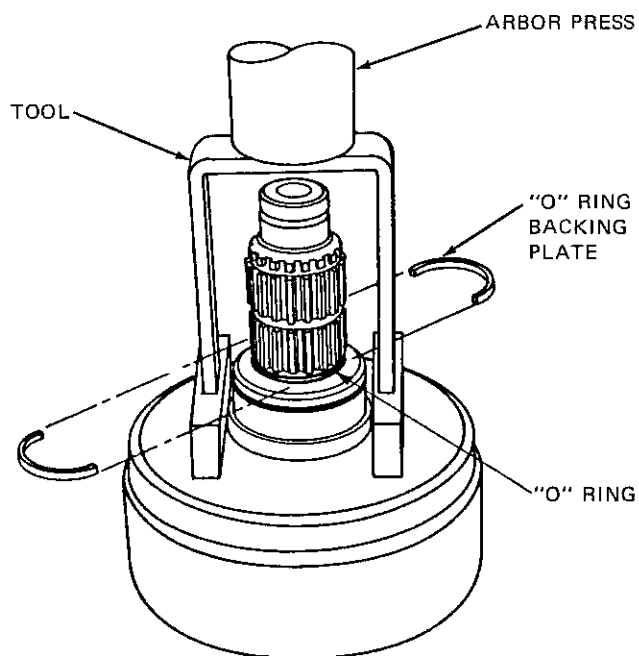

FIG. 8 ASSEMBLE "O" RING AND BACKING PLATES
2) Press the ball bearing (32) into case bore. The bearing snap ring groove should be to rear and a snap ring (23) should be assembled in the groove of bearings used in 1.5 to 1 reduction units.
3) Assemble bearing retainer (23 or 22) and six 7/16-14 X 1 hex head bolts (21) to rear face of case. Lockwashers (21) are used on 1.5:1 units only. Dowels (22) are used to prevent bearing retainer from shifting on 2 to 1 and 3 to 1 ratio units; however, early units were not doweled. Doweled cases and retainers are both interchangeable. Doweled retainers are recommended.
4) Parts assembled in steps 8 through 13 in the section "All Models" should be placed in an arbor press and using a tool as shown in Fig. 8, press the clutch cylinder down against the clutch spring. The sealing ring groove will now be exposed. Assemble sealing ring (54) into shaft groove and work the seal under clutch cylinder counterbore so that the two half moon backing plates (53) may be assembled behind the seal. Carefully release arbor press, making certain that the clutch cylinder bore returns back over the two half moon retainers.